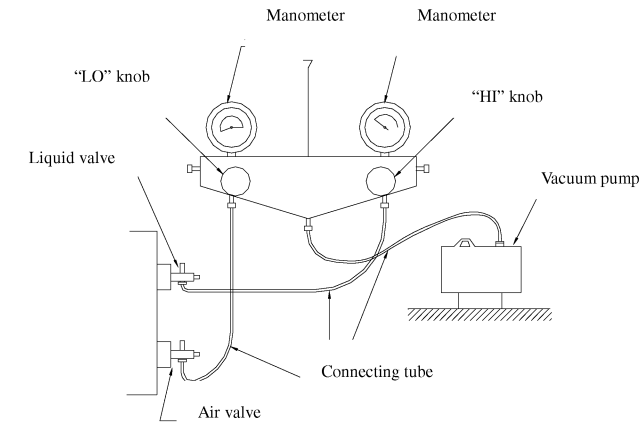

Fig.7
3. Use a vacuum pump to expel the air inside the indoor unit and the connecting pipes at the valve of the outdoor unit as shown in Fig.7.